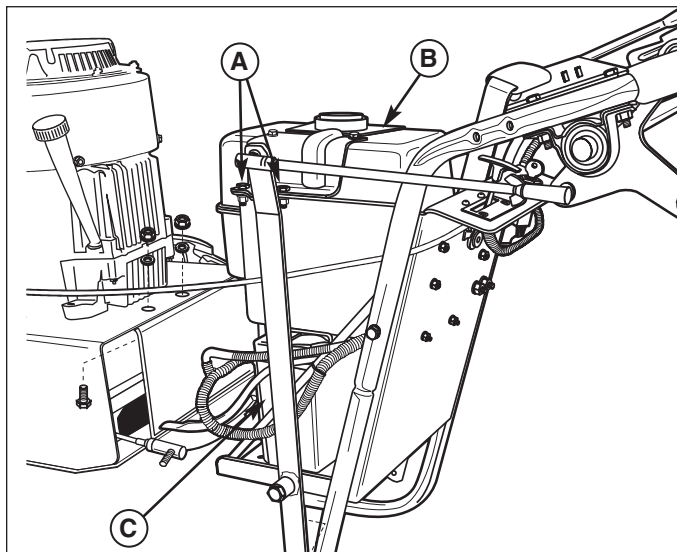

Figure 13b. Battery
2. Remove the two 5/16-18 x 3/4 hex bolts (A, Figure 13b) securing the fuel tank assembly (B) to the unit.
5. Perform the battery (C) removal, cleaning, and installation procedures found above in CLEANING THE BATTERY AND CABLES - 9HP MODELS